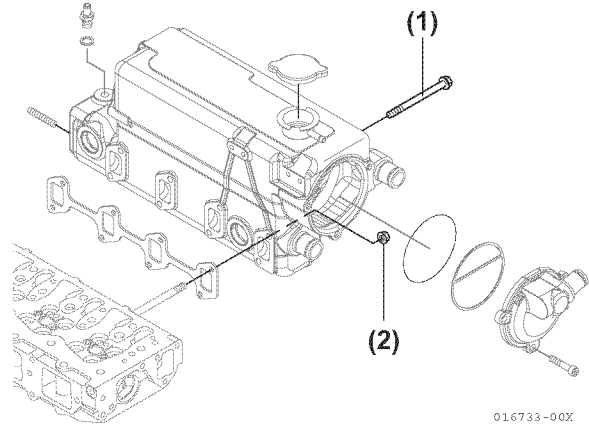

Figure 7-23
4. Remove six tightening bolts (**Figure 7-23, (1)**).
5. Loosen the two nuts on the cylinder head stud bolts (**Figure 7-23, (2)**).